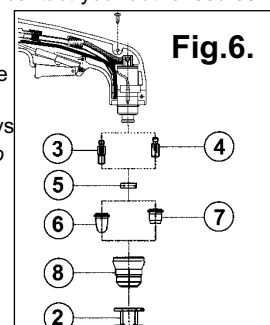

Fig.6.
- WARNING!** Ensure the torch is cool before attempting any maintenance. Always re-assemble the torch in the correct order as shown in fig.6. Never use tools to tighten nozzle components, hand tighten only. Manually dismantle the torch nozzle head (fig.6).
#### 7.3.1. Safety cap. (fig 6 item 8).
#### 7.3.2. Nozzles. (fig 6 items 6 & 7).
7.3.3. **Air Diffuser Ring** (fig 6 item 5).
7.3.4. **Electrodes**. (fig 6 items 3 & 4).
7.3.5. **Spacer**. (fig 6 item 2, & fig 8).